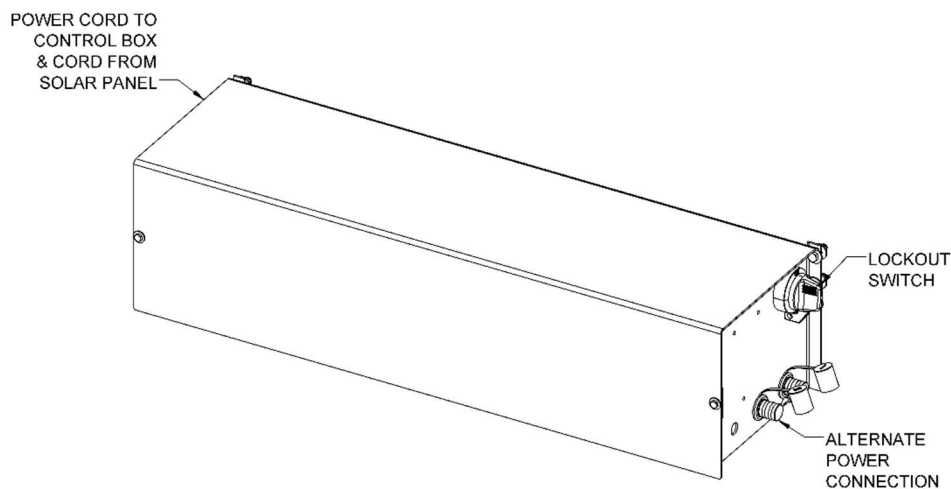

Figure 14: HPU1DC, DC Power Unit
2. Turn the lockout switch on the side of the power unit (Figure 14) to the off position and follow OSHA 1910.147 lockout / tagout procedure to secure.